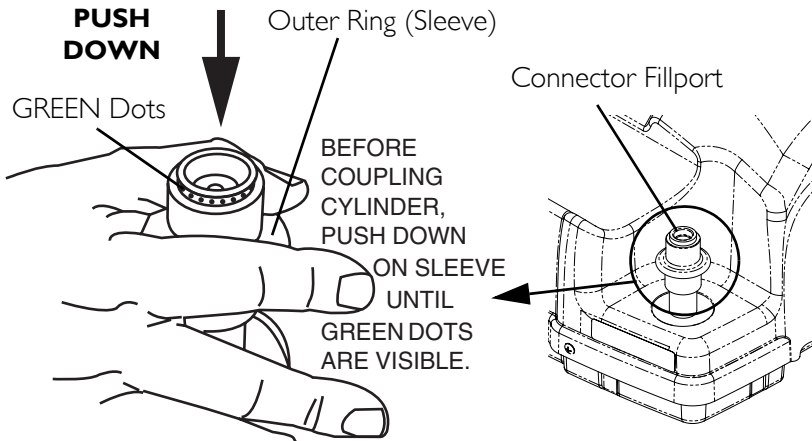

FIGURE 4.4 Resetting Connector Fillport
5. On the compressor unit, momentarily push **DOWN** on the outer ring (sleeve) of the connector fillport to reset the connector (FIGURE 4.4).